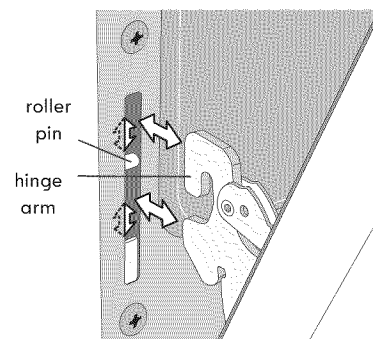

Figure 48: Hinge pin locations
5. With the oven door in the broil stop position, lift the oven door hinge arms over the roller pins located on each side of the oven frame (Figure 48).
2. Holding the oven door at the same angle as the removal position, seat the hook of the hinge arm over the roller pins located on each side of the oven door frame (Figure 48). The hook of the hinge arms must be fully seated onto the roller pins.